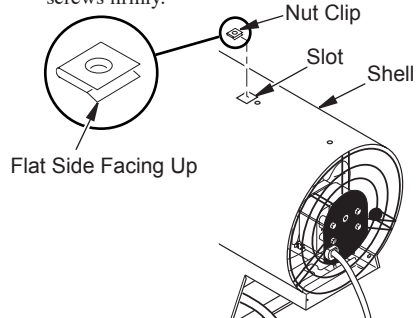

Figure 4 - Installing Nut Clip
2. Insert nut clip (provided with handle) with flat side facing up through slot in top of shell. Align holes in nut clip with screw hole behind slot in top of shell. (see Figure 4).